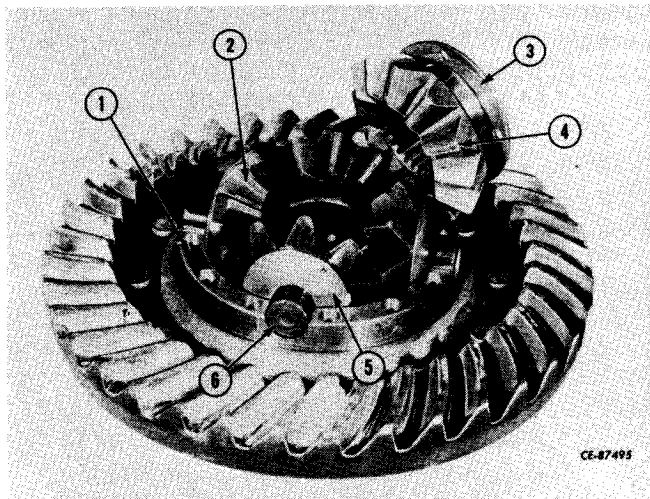

Figure 6-56
Lubricate spider (6, Fig. 6-56), pinion gears (2) and thrust washers (5) with new axle lubricant.